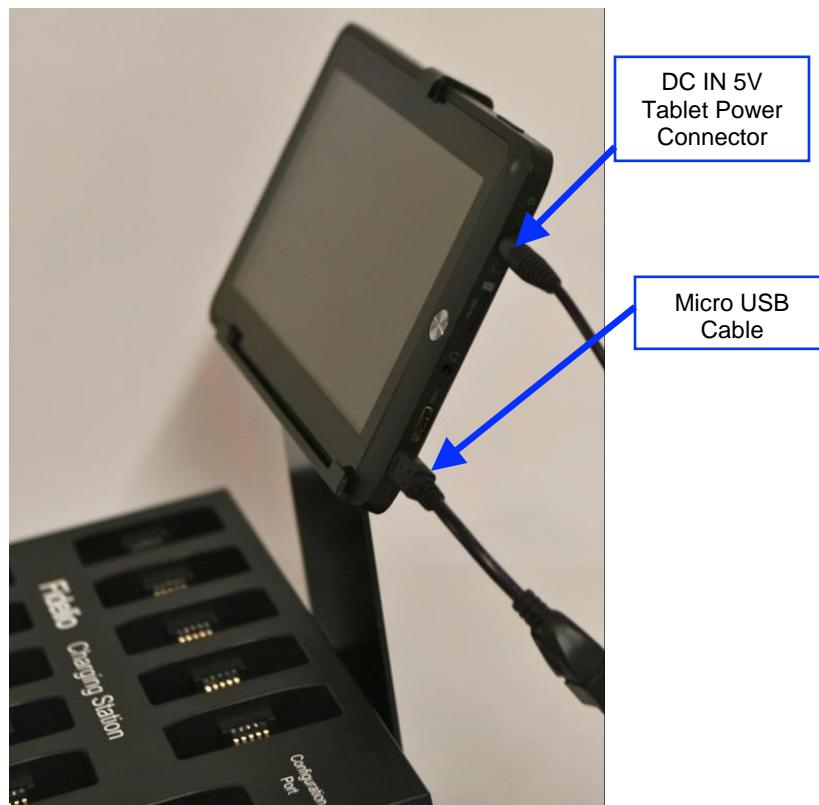
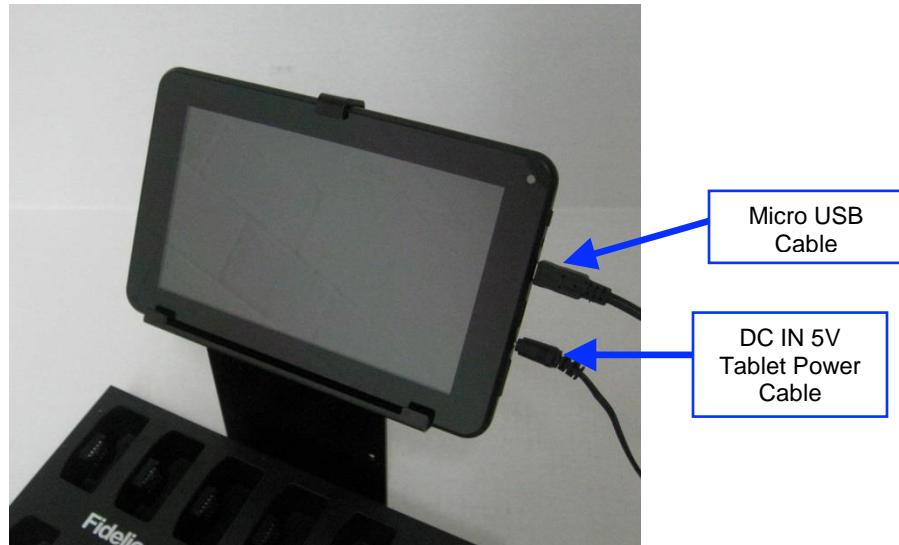

Figure 16: Tablet (v1.1.2) Power Connector
Figure 17: Tablet (v2.2.0) Power Connector
- Plug the small end of the connector with the yellow tip into the touchscreen tablet port labeled “DC IN 5V,” which is located on the right-hand side of the touchscreen tablet (v.1.1.2 Figure 16; v2.2.0 Figure 17).